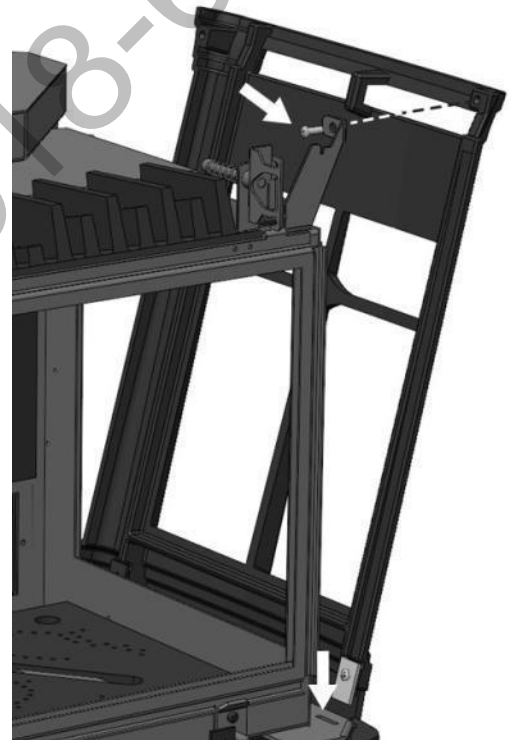

Figure 44 – Side Panel Mounting Detail
3. To dismount the side panels, first remove the top and front façade. Remove the top front machine screw while holding the panel, and then lift the side panel off the stove (See Figure 44).